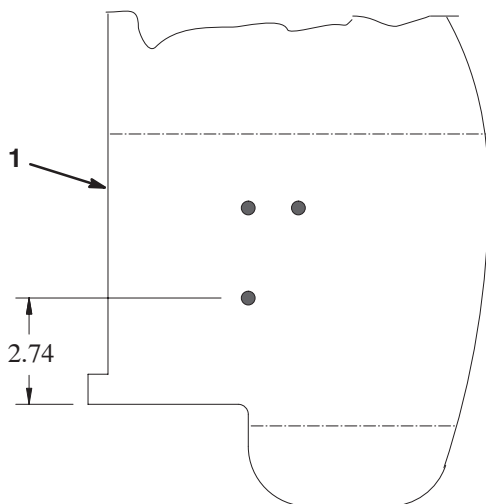
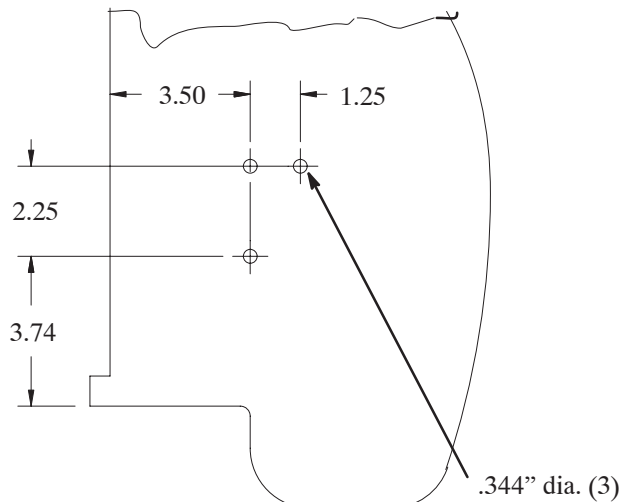

Figure 2
Figure 3
- If the rear hole is located 2.74 inches from the edge of the fender as shown in figure 2, the holes must be relocated. Use the dimensions in figure 3 to locate, mark and drill (3) .344 in. dia. holes in the fender.